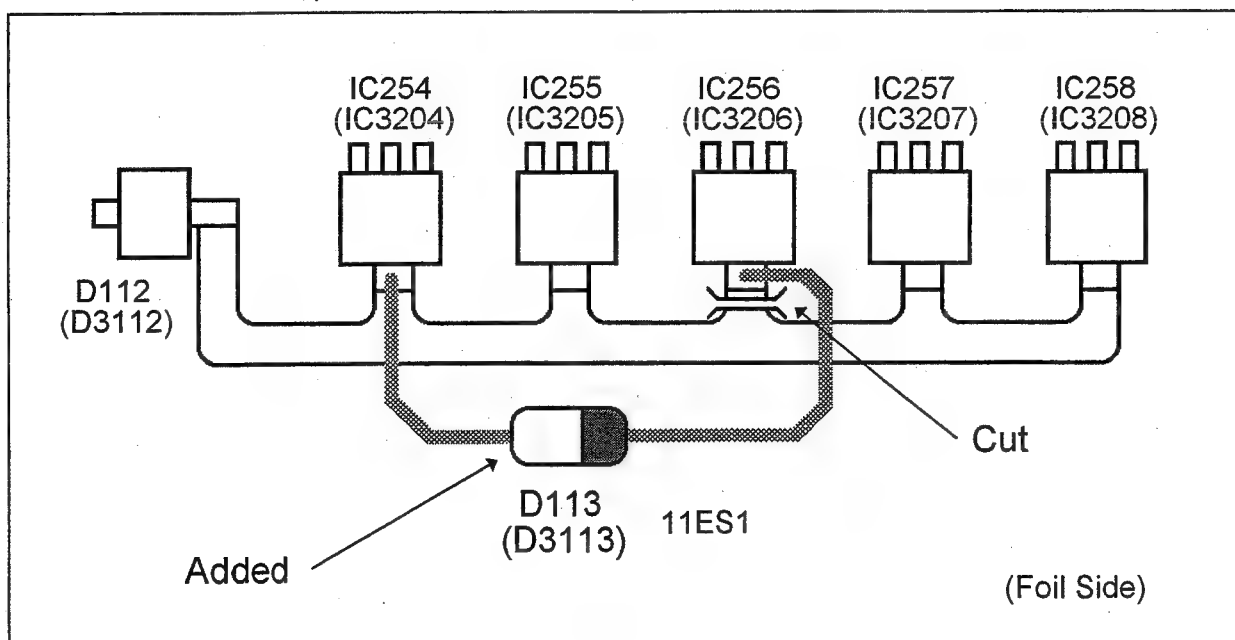

Fig. 3 Page 3-7 (E-4) - AJ-D750
- 1). Cut the foil between terminal I of IC3206 and terminal O of D3112 on the foil side as shown in figures 3 and 4.